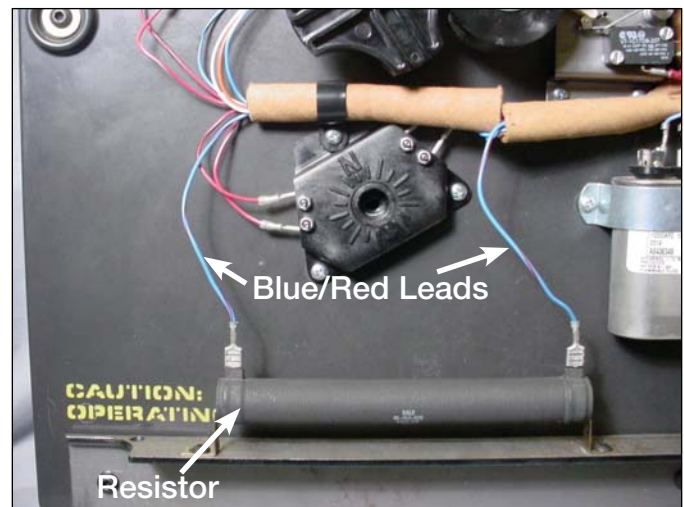

Figure 31.
- Connect the blue wires with red strips to the 40 ohm resistor by pushing the female connector on to the resistor terminals. See Figure 31.